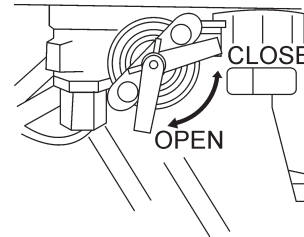

Figure 15. Open Fuel Cock
1. Open the fuel cock (Figure 15).
- Open the fuel cock (Figure 15).
- Close the fuel cock (Figure 15).